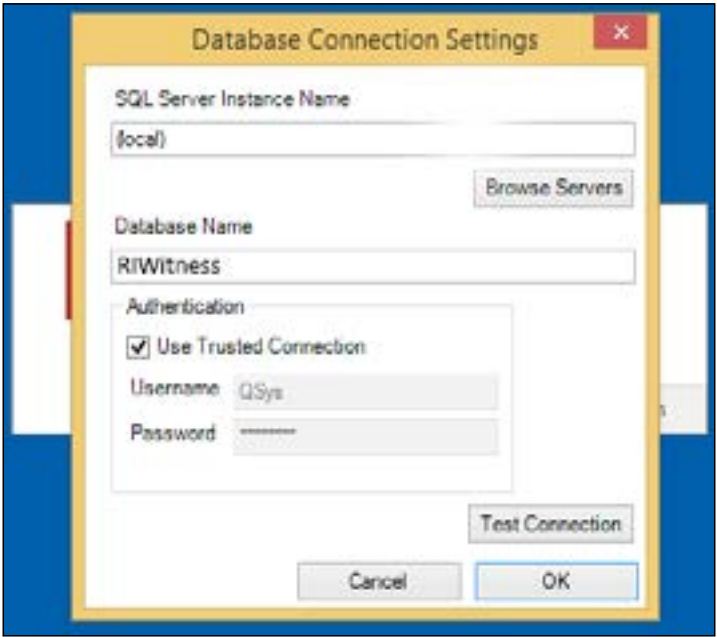

Figure 6-8 The RI Witness™ database connection is unavailable
- 1. At RI Witness™ Manager login, a database connections window will be shown if a connection cannot be made. See Figure 6-8.